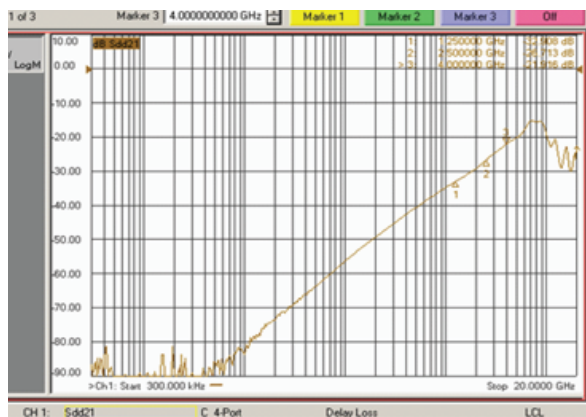

Fig.3 Off Isolation for PI3USB304
5. **Off Isolation** is the amount of noise picked in a switch in OFF state from adjacent switch in ON state. Isolation becomes more important at higher frequencies such as USB 3.0 (5Gbps or 2.5GHz), PCIe 3.0 (8Gbps or 4GHz), etc. High isolation reduces the influence of signals from other channels, sustains the integrity of the measured signal, and reduces system measurement uncertainties. Fig 3. plots the Off Isolation for Pericom’s PI3USB304 (-26.7dB@2.5GHz)